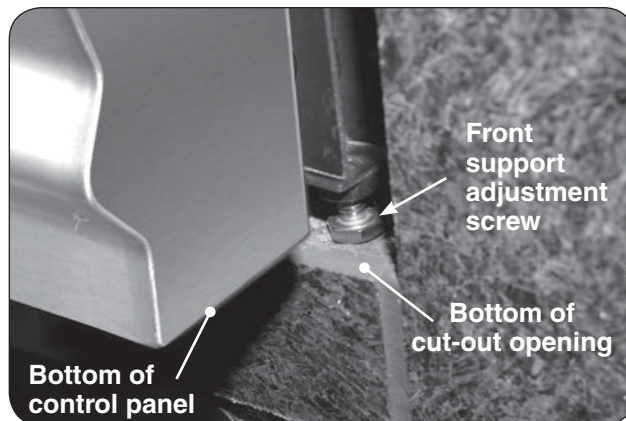

Fig. 19-1 Front support adjustment screws
6. Rotate the front support adjustment screws to the left to raise and to the right to lower the respective side of the appliance grill. Use a $\frac{7}{16}$ " open-end wrench as needed. See Fig. 19-1.